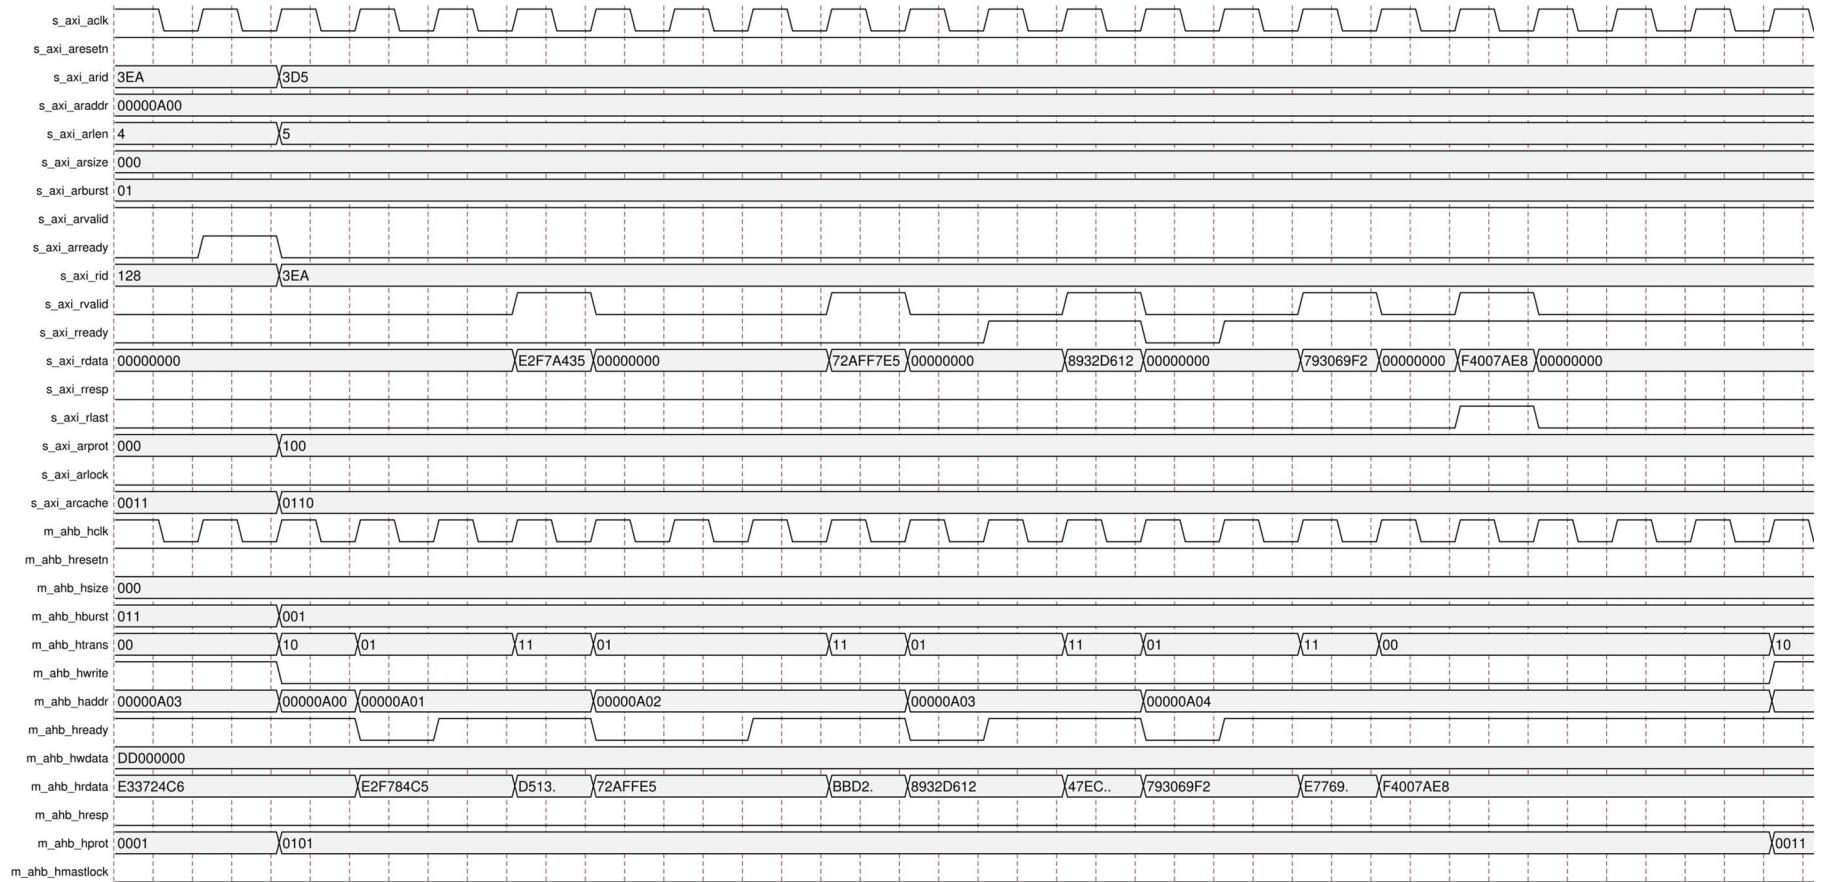

Figure 3-10: AXI4 8-bit Narrow Read Transfer on 32-bit Data Bus
10. AXI4 8-bit narrow read transfer on 32-bit data bus is shown in Figure 3-10.